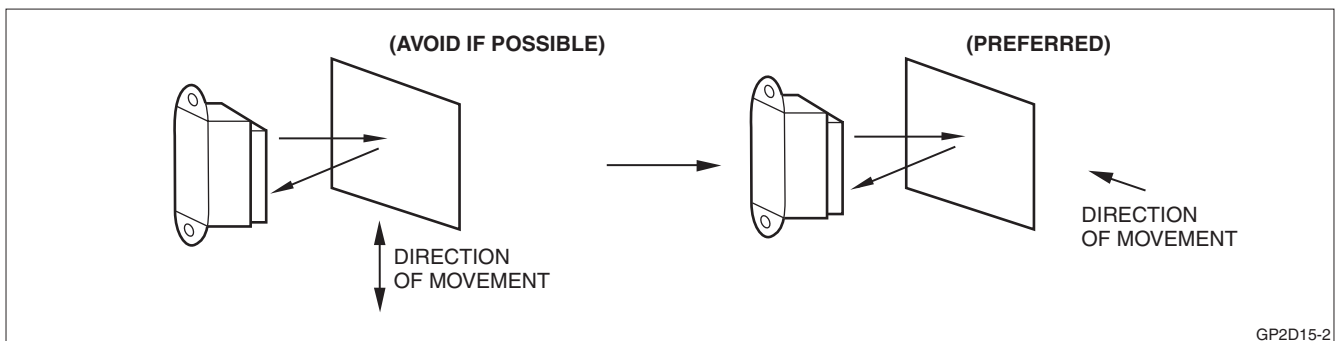

Figure 5. Proper Alignment to Moving Surfaces
- When measuring the distance to objects in motion, align the sensor so that the motion is in the horizontal direction instead of vertical. Figure 5 illustrates the preferred alignment.